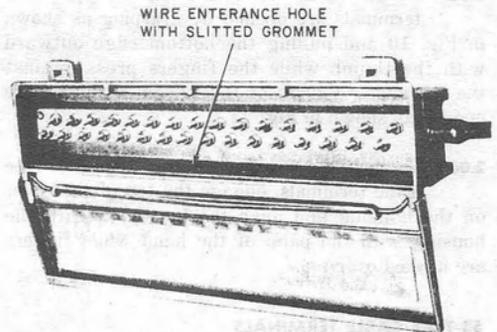

Fig. 8—NF16P Cable Terminal
2.04 *NF-type cable terminals* are nonprotected type terminals available in either 10-, 16-, or 25-pair sizes (Fig. 8 and 9) and are intended for use where protection is not required.